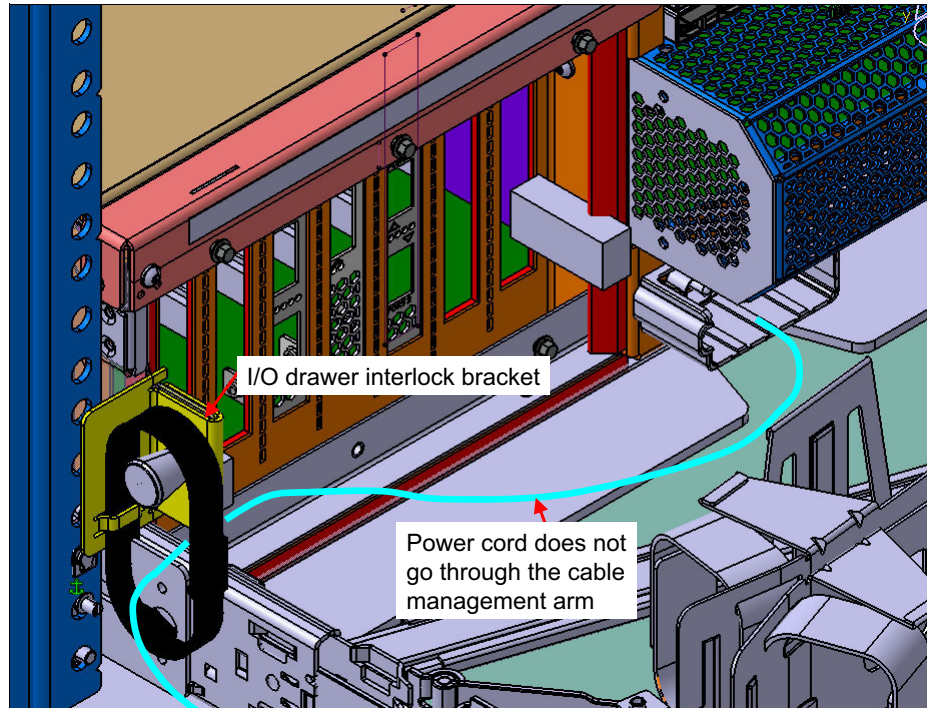

Figure 2-6 I/O drawer interlock bracket
7. Install the I/O drawer interlock bracket. See Figure 2-6.